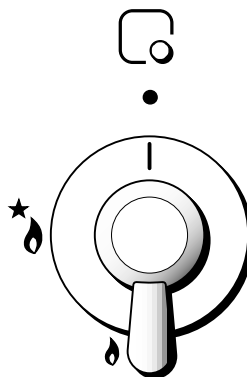

Fig. 4.3
Each hob burner is controlled by a separate gas tap operated by a control knob (fig. 4.3) which has 3 positions marked on the knob, these are:
- 1) Lightly press and turn the knob anti-clockwise, and make the symbol ★ 🔥 printed on the knob to match with the indicator on the control panel (fig. 4.3).